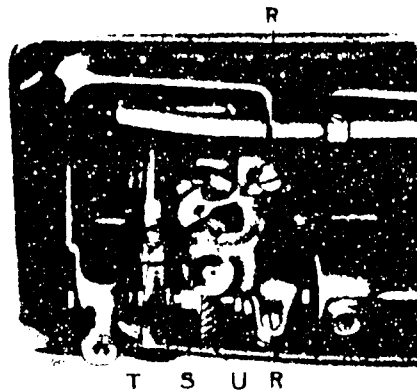

Fig. 21. Adjustment of Hook Saddle
Remove the throat plate; clean the lint and dust from between the feed points and replace the throat plate; tip the machine back and turn the balance wheel towards you until the feed dog is at its highest position; loosen screw (T, Fig. 21) in the feed lifting cam fork on the feed bar and raise or lower the feed dog, as may be required, and retighten the screw (T).
Loosen the two set screws in the hub of the hook driving gear (Fig. 21) and tap this gear to the right on the hook driving shaft for an earlier hook timing, or to the left for a later hook timing. When the correct timing is obtained, securely tighten the two set screws in the hub of the gear.
Turn the balance wheel over toward you until the point of the sewing hook is at the center of the needle. Loosen the two screws (R, Fig. 21) underneath the bed of the machine and move the hook saddle to the right or left, as may be required, until the point of the hook is as close to the needle as possible without striking it, then securely tighten the two screws (R).
Remove the throat plate, feed dog and the bobbin case opening lever. Then take out the two screws from the hook shaft gear (S, Fig. 21) and lift out the sewing hook.